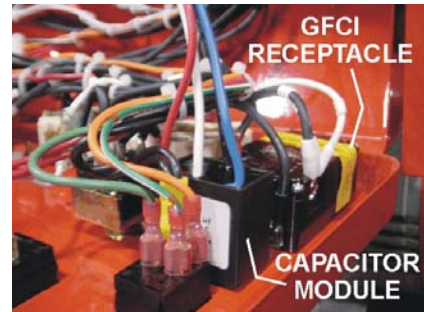

Figure 4. Mounting The Capacitor Module
5. Install the capacitor module on top of the GFCI receptacle-mounting tab as shown in Figure 4. Align the hole on the capacitor module with the hole on the GFCI mounting tab.